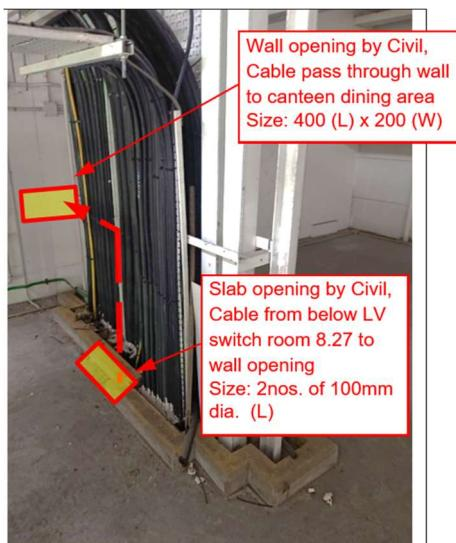
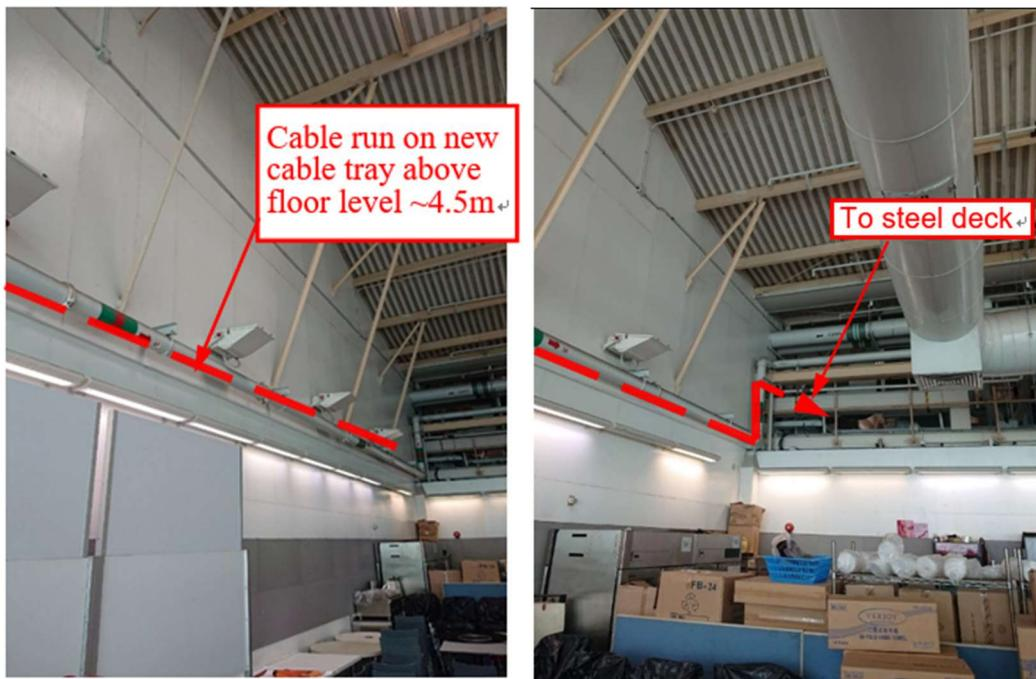

Figure 3 – Slab & Wall opening at UG/F
Figure 4 – Cable Routing at Canteen Dining Area
- o Fully isolate the working area by fixing the polythene sheet securely from the false ceiling to the ground to prevent any dust and debris floating around. (Refer to Fig. 3 & Fig.4.)
- Modification of the existing curb (Refer to section 7.9) (see Figure 3)
- CSCE/BS team to carry out installation of new cabling works; (See Figure 4)